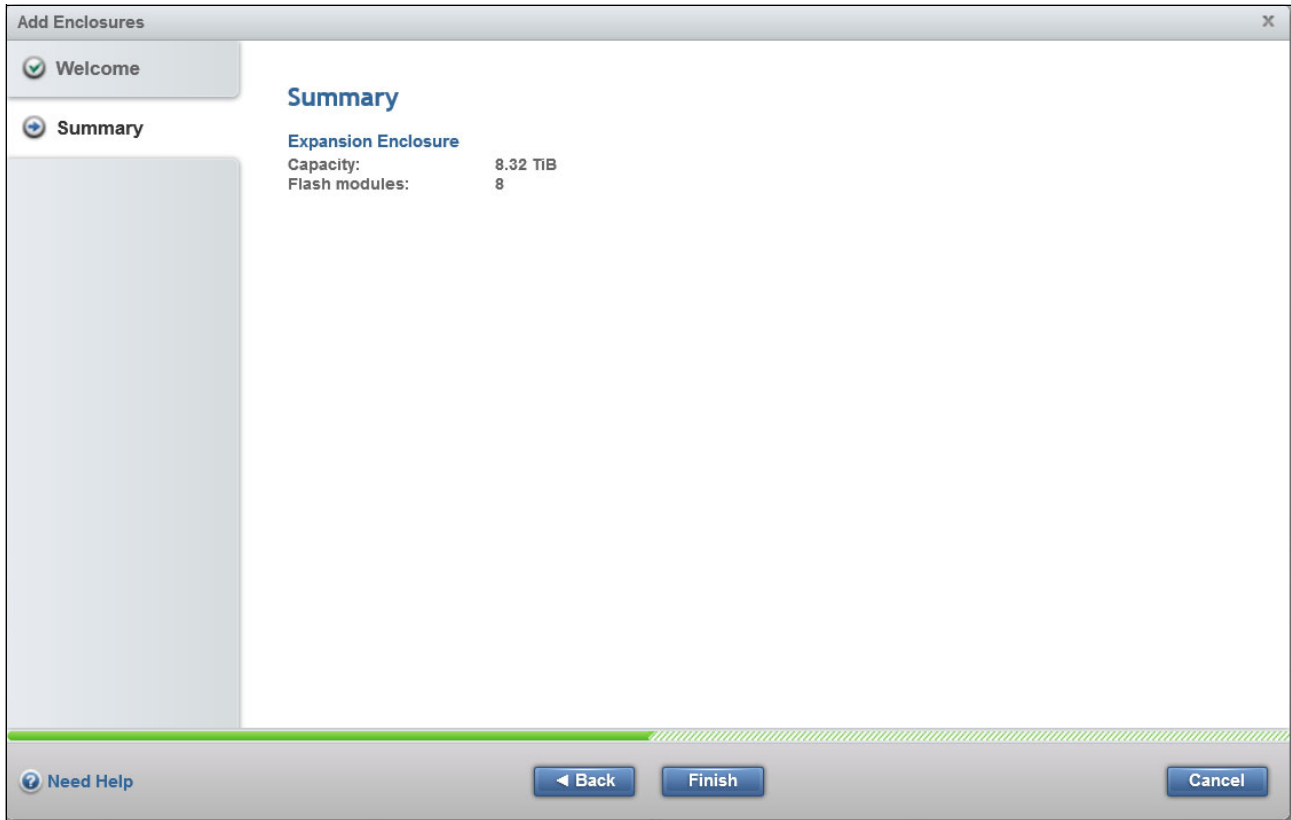

Figure 6-26 Add AE2 storage enclosure summary
- The summary of the available storage is displayed (Figure 6-26 on page 252). Click either **Back** to stop the process or **Finish** to continue.